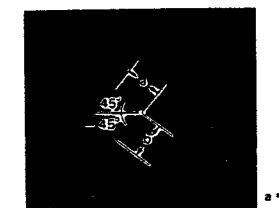

Fig. 3-6
- (1) Connect a vectorscope to BB-2 of MAIN unit via a 75-ohm load resistor.
- (2) Adjust R14 (BF PHASE) so that the phase is specified position as shown in Fig. 3-6.
- (3) Adjust R72 (BF PHASE) for quadrature as shown in Fig. 3-6.